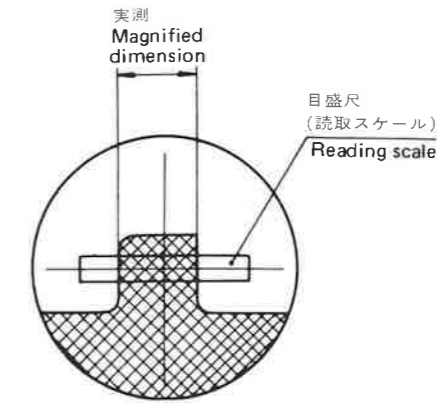

Fig. 22
1) 目盛尺による測定(Fig.22)
1) Dimensional measurement of projected image by scale (Fig. 22)